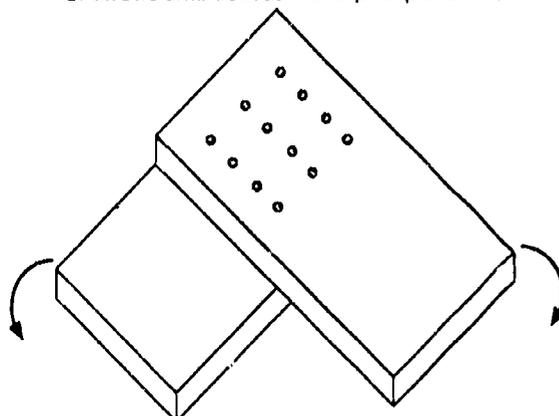

Figure 10. Test 4: if the boards are at right angles, hold the free ends in your hands and apply pressure in the directions indicated by the arrows.
- Holding the free ends of the boards in your hands, attempt to push the two ends together as shown in Figure 10.